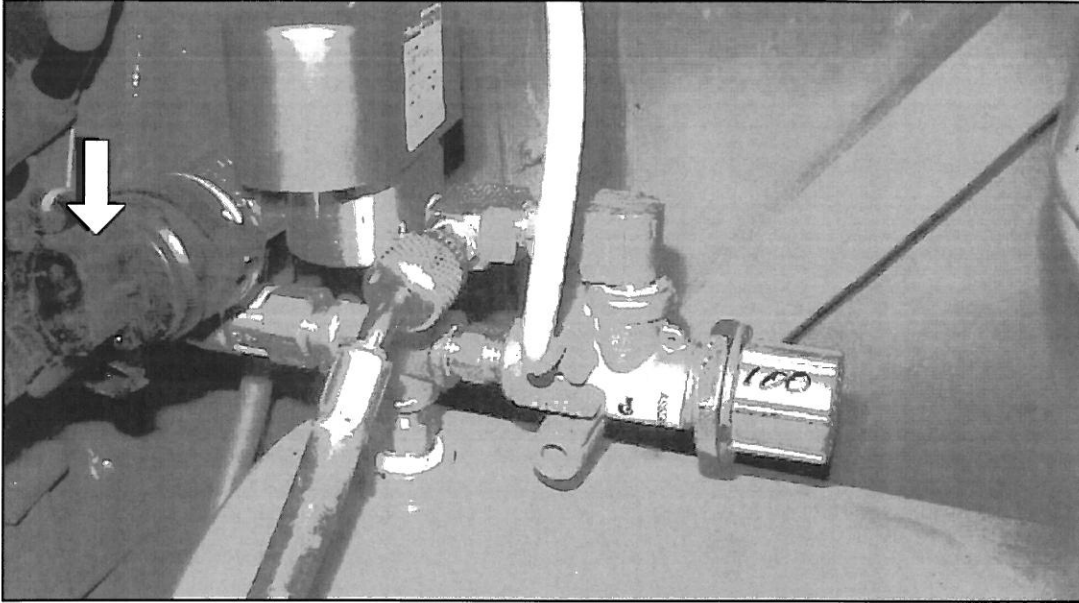

Figure 4. High rise control solenoid and pressure switch.
13. Disconnect the two (2) Packard connectors at the high rise control solenoid and pressure switch (refer to Figure 4).